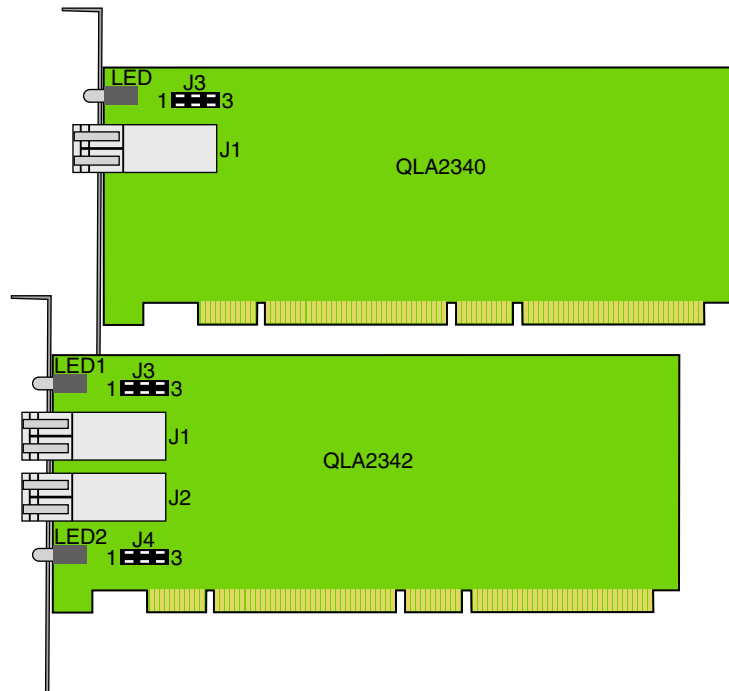

Figure 64 Reconfigure the HBA jumper
2. Locate jumper(s) J3 (QLA2340) or J3 and J4 (QLA2342), shown in Figure 64 on page 110.